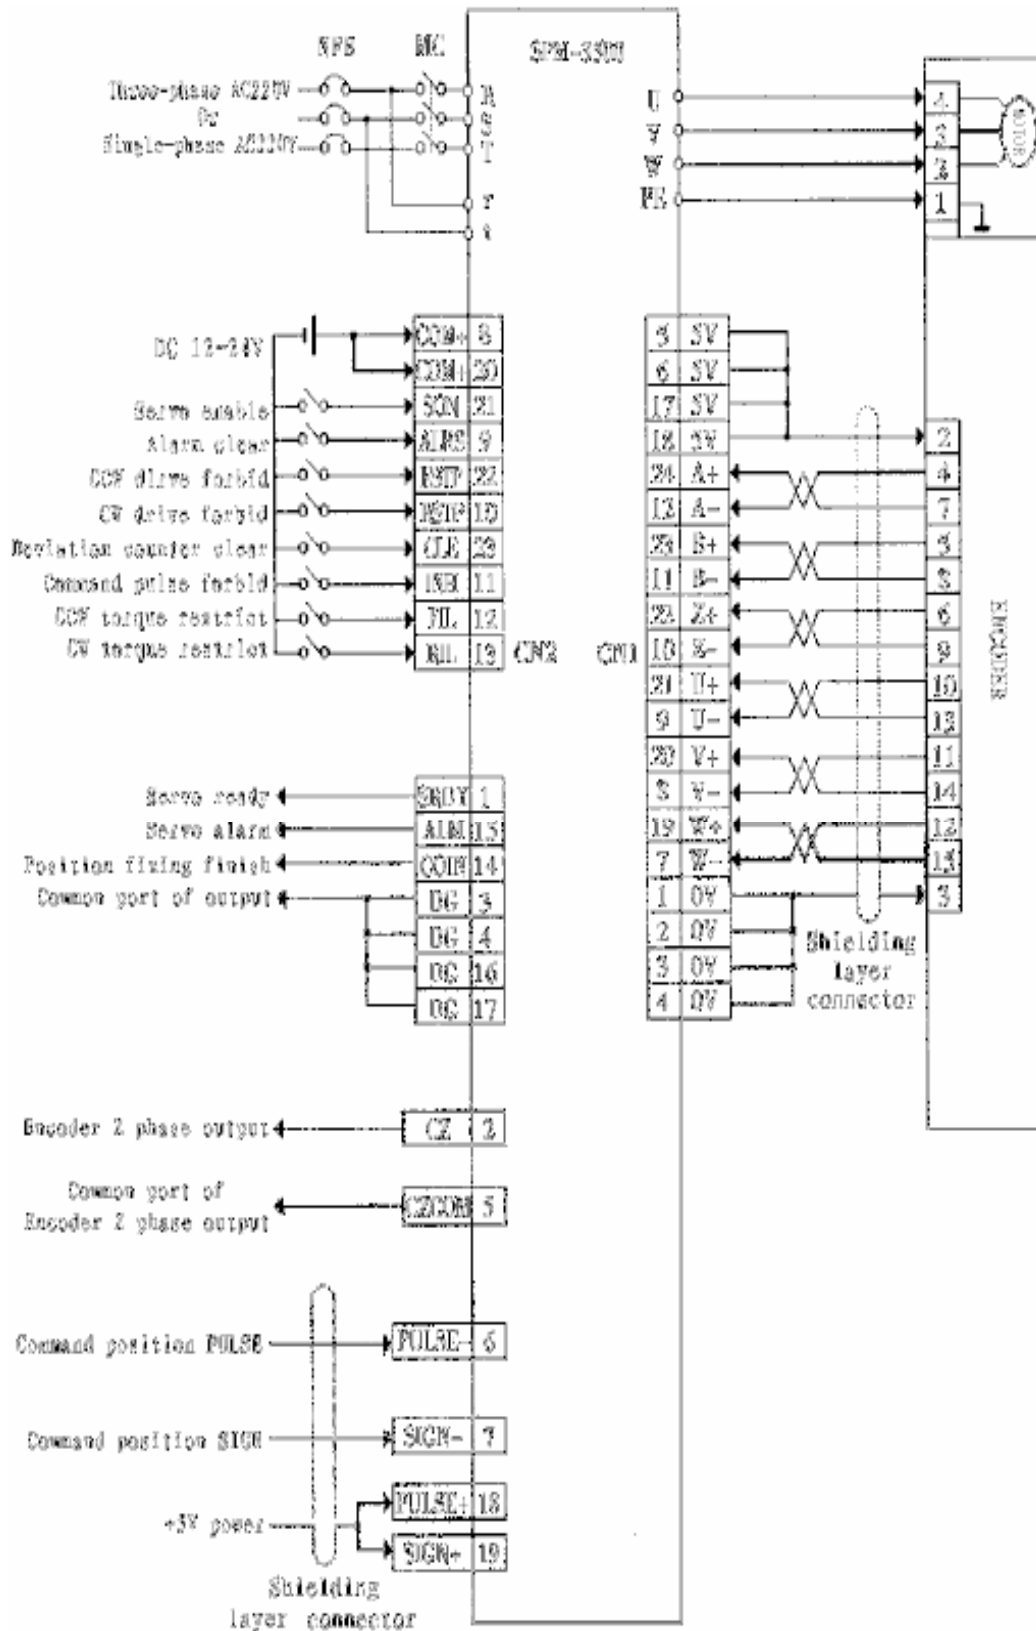

Fig 5.5 The standard wiring for position control mode between the driver and CHANGHUA servo motor
- 5) Fig 5.5 shows: The standard wiring for position control mode between the driver and CHANGHUA servo motor;